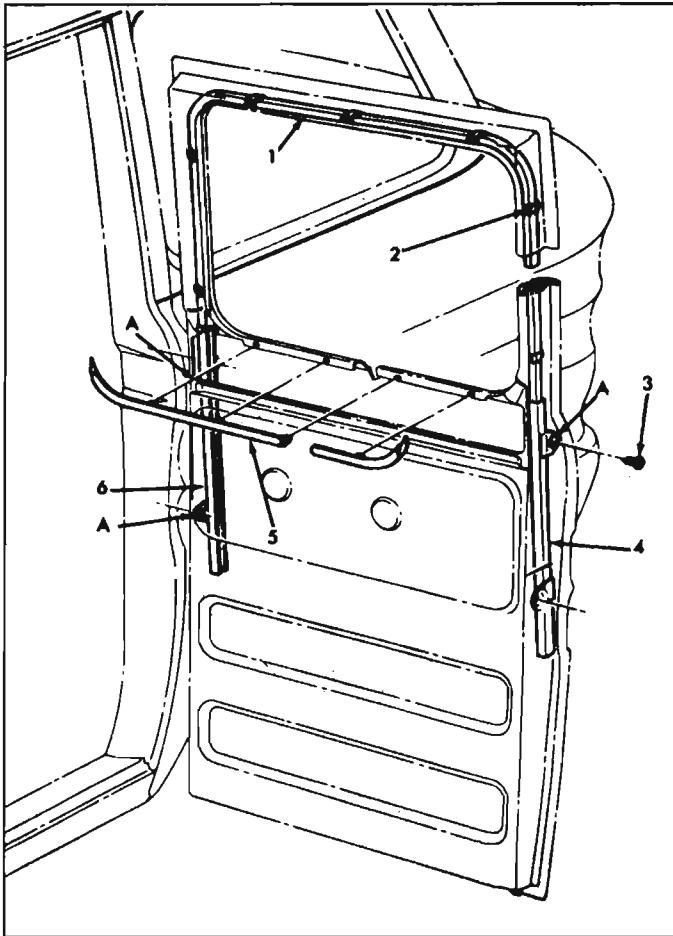

Fig. 10-66a—Channel and Run Assembly
4. Remove front and rear channel assembly retaining screws ("A," fig. 10-66a).
4. Hold window assembly with one hand, then with the other, install window assembly into channels. Install retaining screws in each channel assembly ("A", fig. 10-66a) with glass in up position.
2. Remove retaining screws ("A", fig. 10-66a) and pull channel straight up to remove it from window and door.
4. Slide run channel assembly into position in door and install retaining screws ("A", fig. 10-66a).
7. Install channel retaining screws to channels ("A", fig. 10-66a).